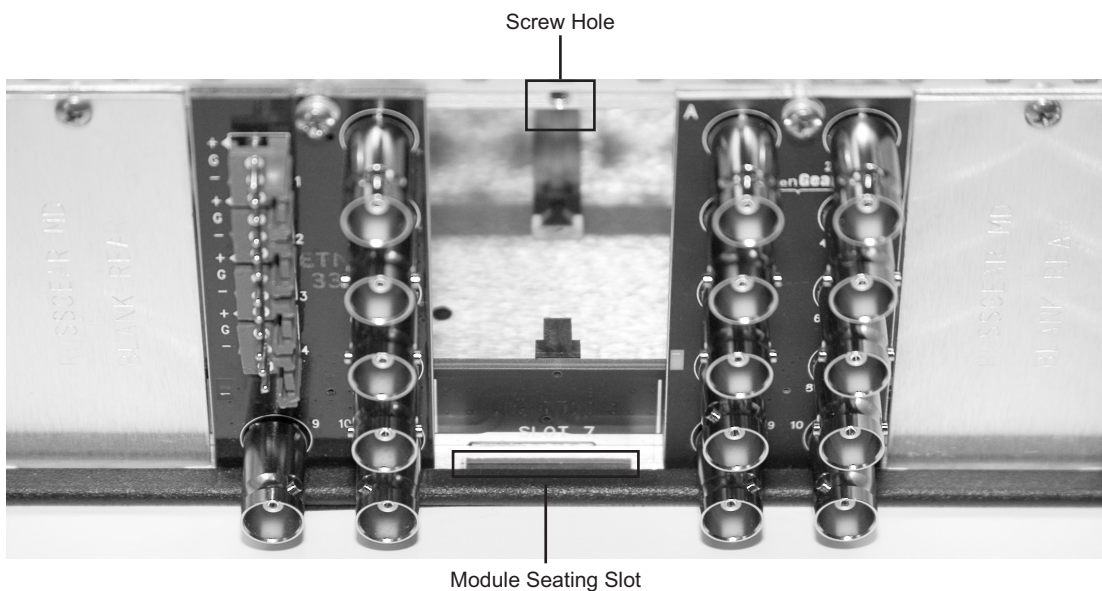

Figure 2.1 Rear Module Installation in a DFR-8300 Series Frame (HDC-8222A not shown)
3. Install the bottom of the Rear Module in the **Module Seating Slot** at the base of the frame’s back plane. (**Figure 2.1**)